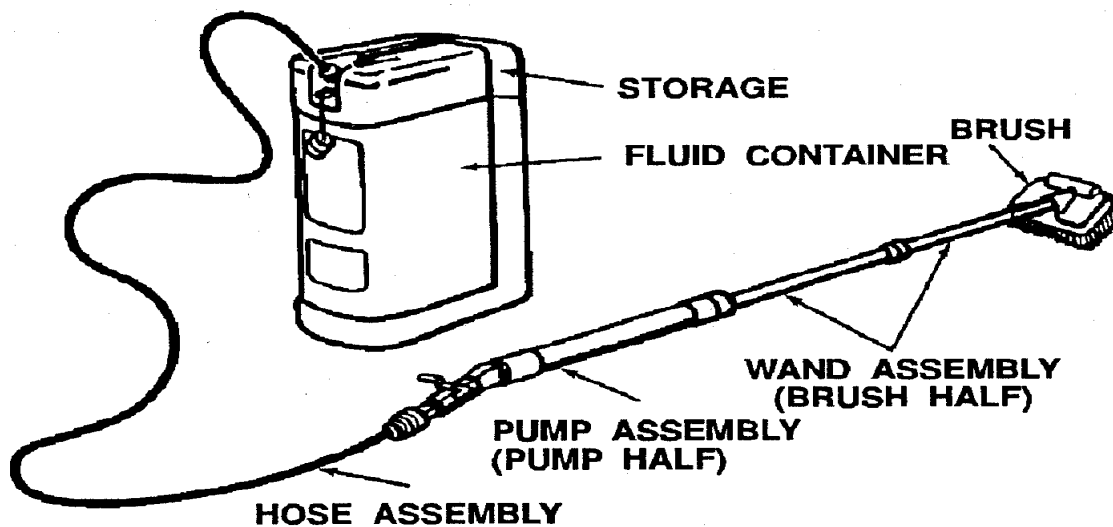

Figure 6-3. M-13 Portable Decontaminating Apparatus
c. Use the M13 apparatus to decontaminate vehicles and crew-served weapons larger than .50 caliber. The M13 (Figure 6-3) is about the size of a 5-gallon gasoline can. It comes prefilled with 14 liters of DS2 decon agent. Decon capability is 1,200 square feet. A hose assembly, pump assembly, wand assembly, and brush are attached to the fluid container for disseminating DS2. The brush allows removal of thickened agents, mud, grease, or other material from surfaces. See TM 3-4230-214-12&P for further information.